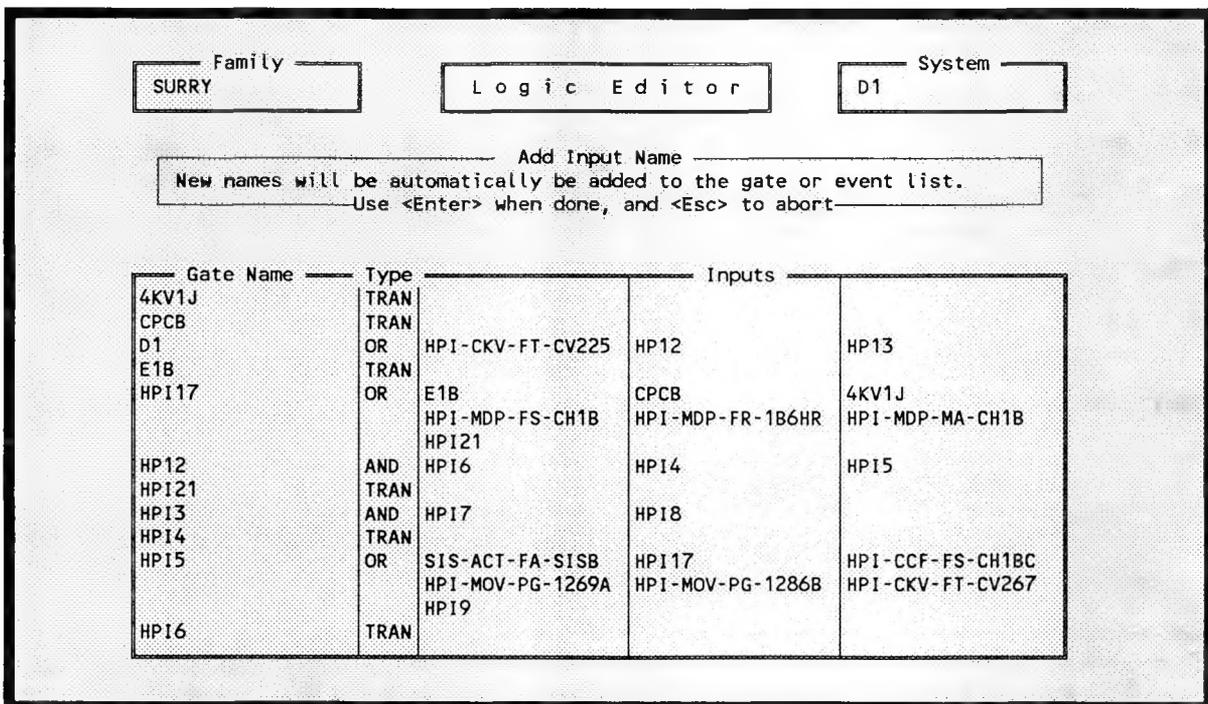

Figure 116. Add input to logic editor.
5.6.2.2 Add. This option allows you to enter a new gate name or input into the selected system or subsystem. To invoke this option, enter an <A> while positioned in the gate name column or at the desired input row or column. When you invoke this option, Figure 116 will be displayed.